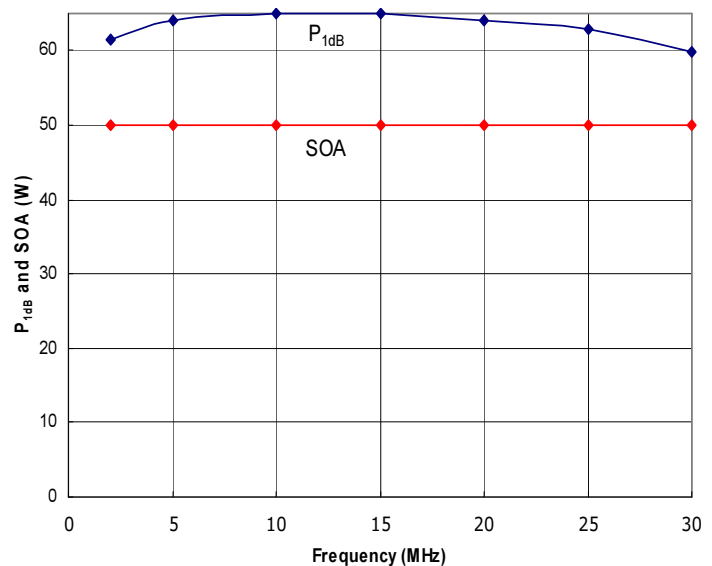

Figure 4: RFPS2-30-50 Typical P_{1dB} and Safe Operating Area (SOA).
- 5) Apply RF drive to achieve desired output level. Ensure that the Safe Operating Area (SOA) power level indicated in Figure 4 is not exceeded, or amplifier damage may occur, and will void the warranty.